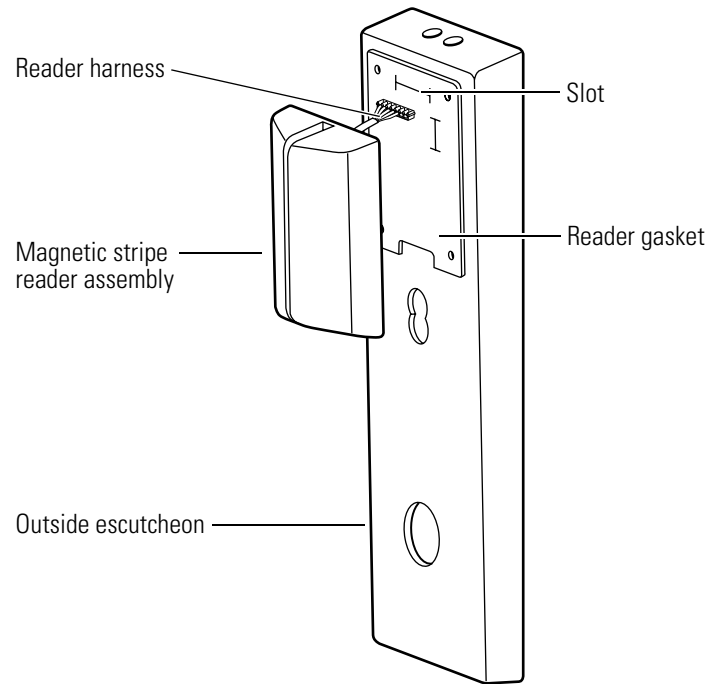

Figure 9.16 Positioning the magnetic stripe reader assembly
1. Orient the magnetic stripe reader assembly and insert the reader harness through the slot in the outside escutcheon. See Figure 9.16.